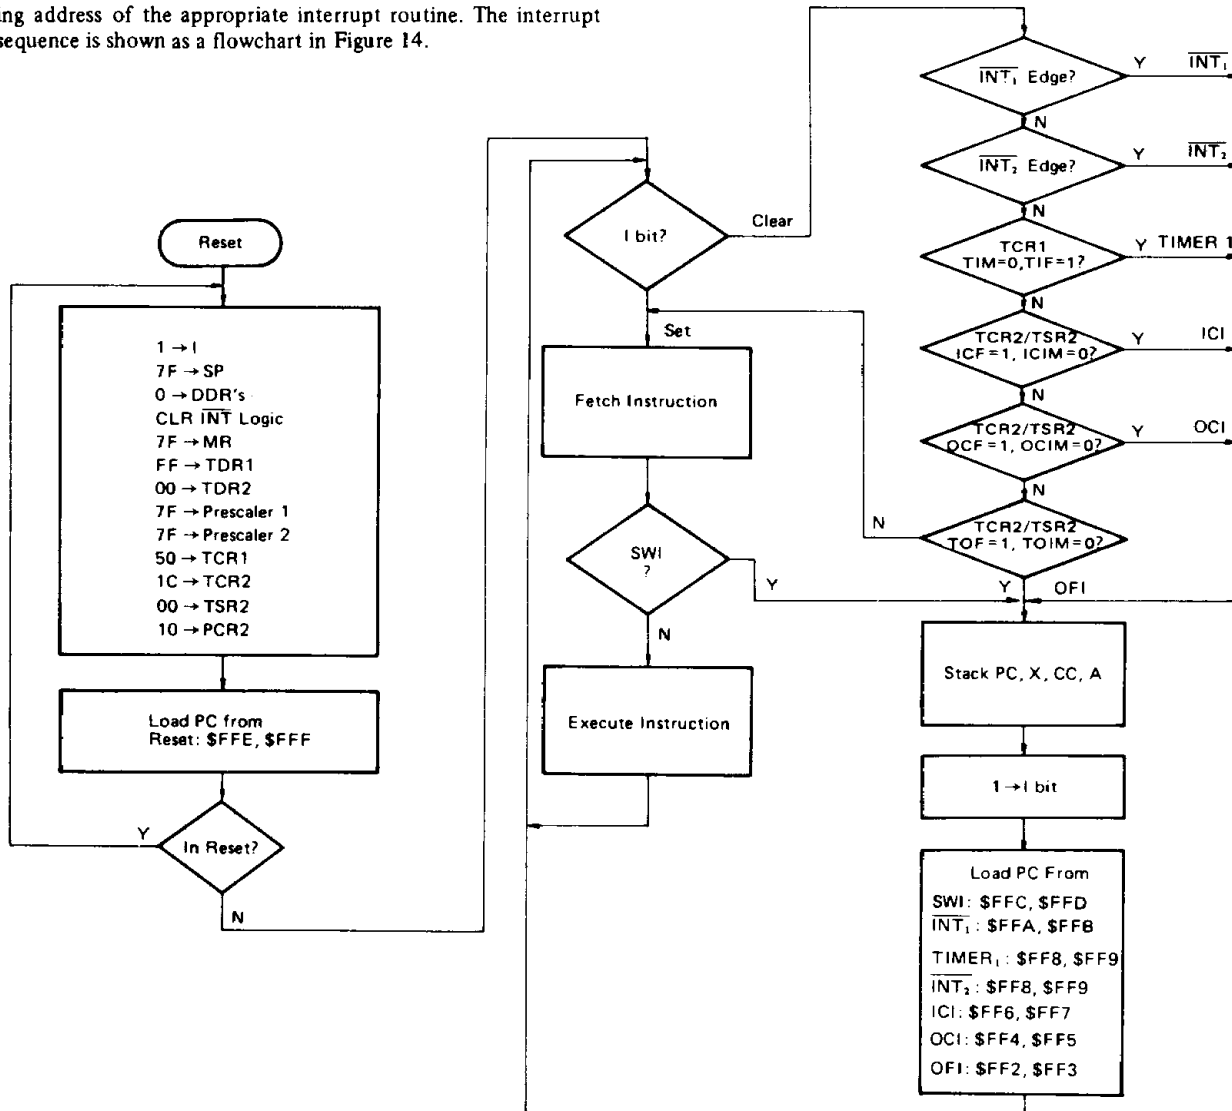

Figure 14 Interrupt Flowchart
The MCU can be interrupted in seven different ways: through external interrupt input pin (\overline{INT}_1 and \overline{INT}_2), internal timer interrupt request (Timer 1, ICI, OCI and OFI) and a software interrupt instruction (SWI). \overline{INT}_2 and Timer 1 are generated by the same vector address. When interrupt occurs, processing of the program is suspended, the present CPU state is pushed onto the stack in the order shown in Figure 4. The interrupt mask bit (I) of the Condition Code Register is set and the external routine priority address is achieved from the special external vector address. After that, the external interrupt routine is executed. Stacking the CPU registers, setting the I bit, and vector fetching requires 11 cycles. The interrupt service routines normally end with a return from interrupt (RTI) instruction which allows the CPU to resume processing of the program prior to the interrupt. The priority interrupts are shown in Table 6 with the vector address that contains the starting address of the appropriate interrupt routine. The interrupt sequence is shown as a flowchart in Figure 14.